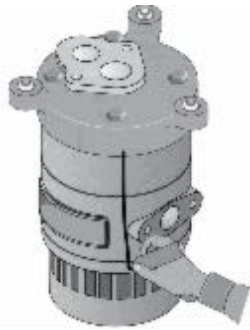

Figure 28
5. Draw a line down the side of the pump with a marker to help alignment during reassembly. Mark the pump from the motor to the base volute (see Figure 28).